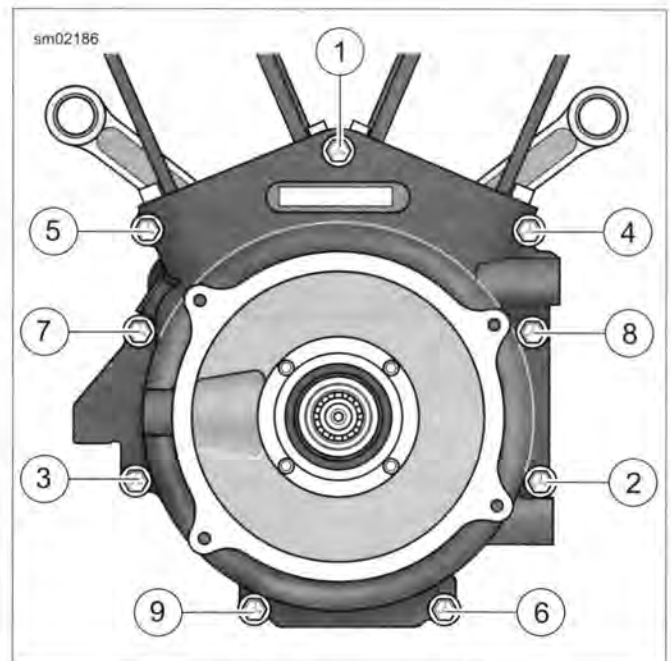

Figure 3-131. Tightening Crankcase Bolts
- See Figure 3-131. Start the nine crankcase bolts and tighten in the following sequence.